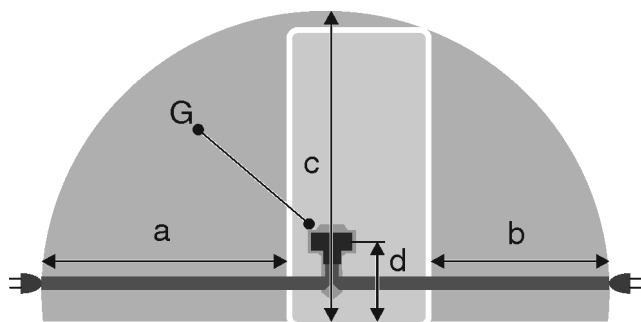

Fig. 28
- The socket is outside the back of the appliance area in the specified area Fig. 28 (a, b, c).
- ▶ Insert the appliance plug Fig. 28 (G) into the back of the appliance. Ensure that it clicks into place.